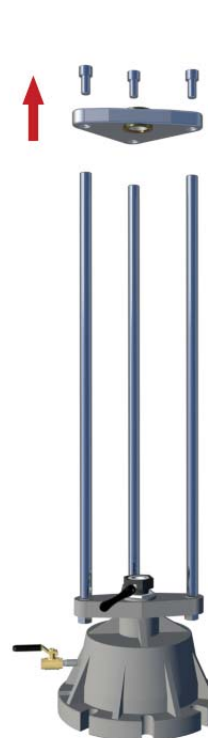

Figure 1
- Remove the existing P3 by removing the (3) 5/8" socket head cap screws from the P3 and guide posts as seen in Figure 1.